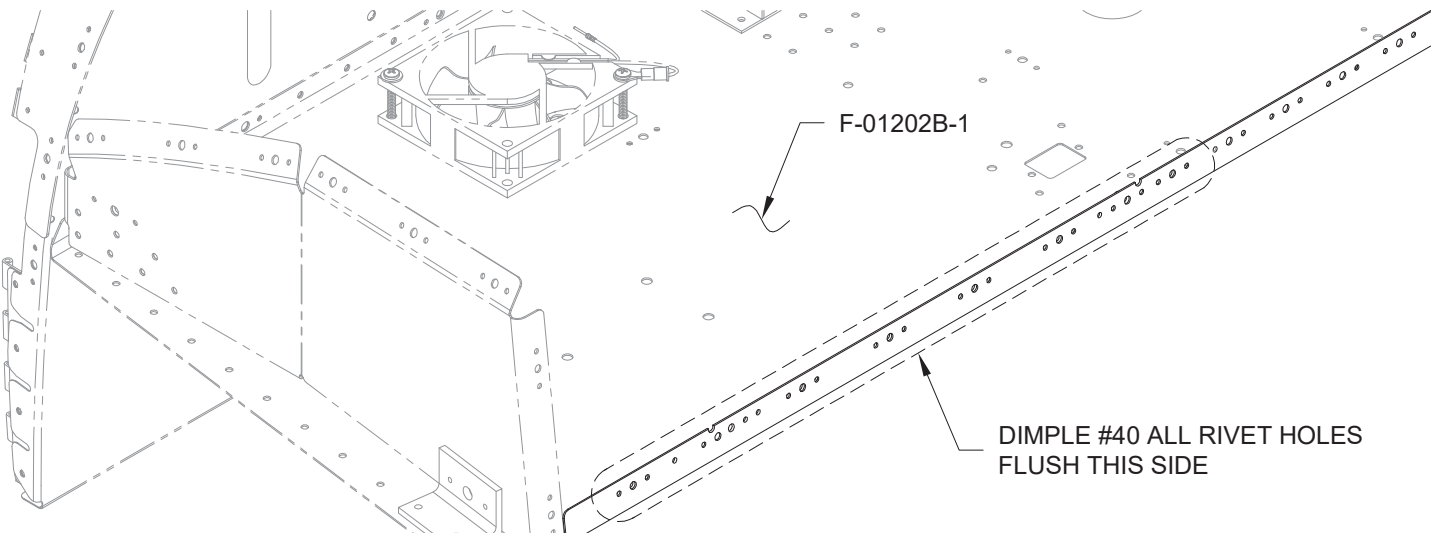

FIGURE 3: PREPARING THE F-01202B-1
Step 4: Dimple all rivet holes in the F-01202B-1 flange as shown in Figure 3.